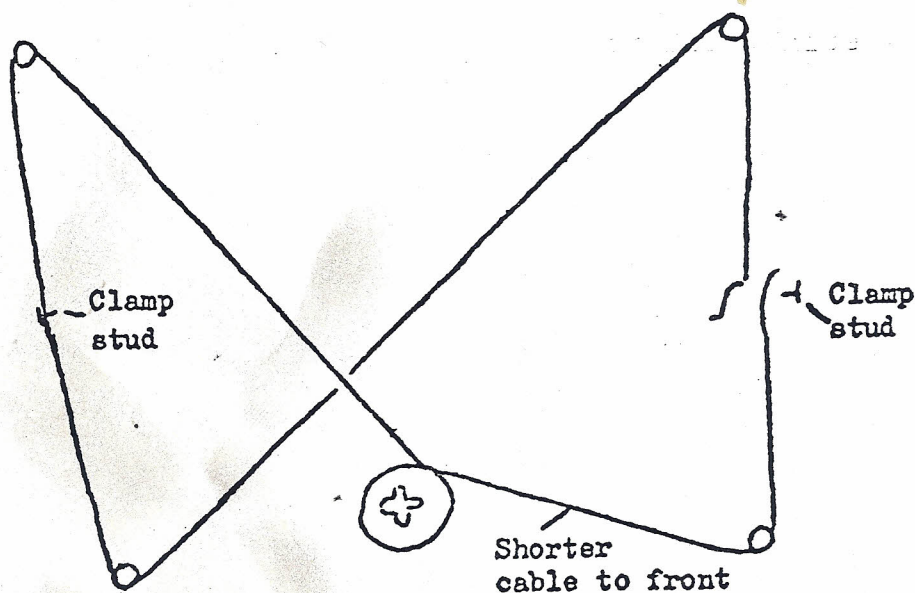

Figure 1
6. Route cable from drive pulley, positioning clamp studs as shown (Fig.1). The two free ends of the cable pass through the forward clamp stud in opposite directions, this providing a method of tensioning and securing to the window.